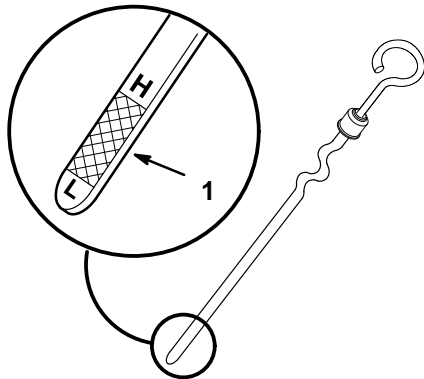

Figure 5
4. Pull out the oil dipstick and wipe the metal end clean (Fig. 5).